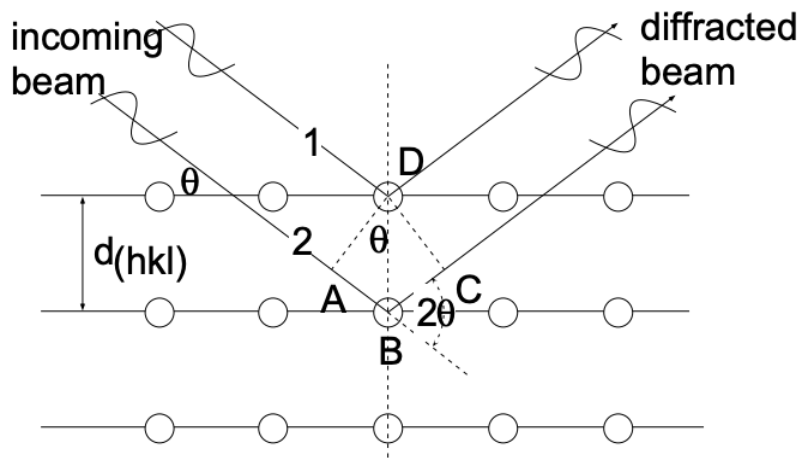
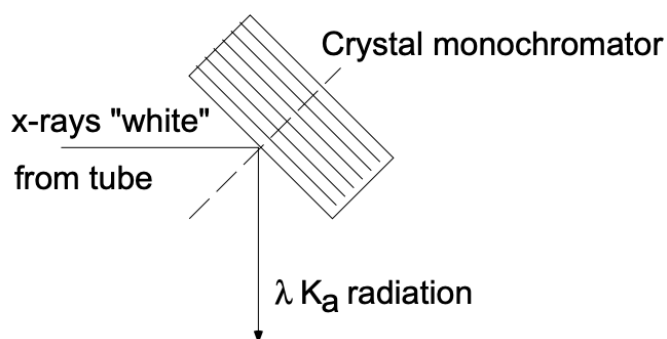
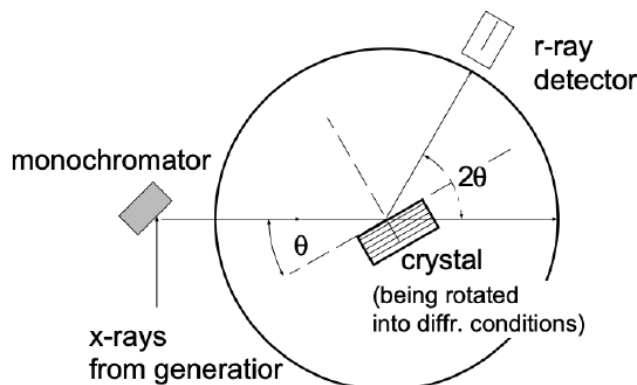

Figure 8 Bragg's law, assuming the planes of atoms behave as reflecting planes.
Figure 10 Isolation of monochromatic radiation from target radiation
Figure 11 X-ray Diffractometer setup.
The geometrical conditions which must be satisfied for diffraction to occur in a crystal were first established by Bragg. He considered a monochromatic (single wavelength) beam of X-rays with coherent radiation (X-rays of common wave front) to be incident on a crystal, as shown in fig. 8. Moreover, he established that the atoms which
For constructive interference of the scattered X-rays (the appearance of a diffraction peak) it is required that the beams, scattered on successive planes, be "in phase" (have again a common wave front) after they leave the surface of the crystal. In terms of the beams labeled 1 and 2 in fig. 8 this requires that the distance $\overline{AB} + \overline{BC}$ be equal to an integral number of wavelengths (λ) of the incident radiation. Accordingly:
If we consider fig. 8 as representative for a "diffractometer" set-up (fig. 11), we have a collimated beam of X-rays impinging on a (100) set of planes and at 2θ to the incident beam a detector which registers the intensity of radiation. For a glancing incident beam (small θ) the detector will register only background radiation. As θ increases to a value for which $2d \sin \theta = \lambda$, the detector will register high intensity radiation - we have a diffraction peak. From the above it is evident that the diffraction angle (θ) increases as the interplanar spacing, $d_{(hkl)}$, decreases.
(b) Fixed λ (Monochromatic X-Rays), Variable θ : The basic prerequisite for this approach is the availability of a monochromatic X-radiation of known wavelength (λ). Such radiation can be conveniently obtained by using a crystal (i.e., its diffracting property) as a filter or monochromator (fig. 10). Filter action is achieved by positioning the crystal in such a way that the unfiltered radiation emitted by the X-ray tube becomes incident at an angle, θ , on a set of low index planes which satisfy Bragg's law for the highest intensity radiation (K_α) emitted. The condition of a fixed λ and variable θ is experimentally used in two techniques. Using a **diffractometer** (fig. 11), we place a sample (ground to a powder) into the center of a rotating stage and expose it to a monochromatic X-ray beam. The sample is rotated into diffraction condition and the diffraction angle determined.